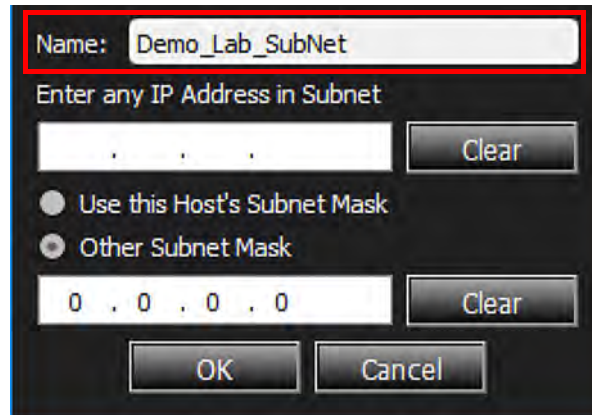

Figure 2.70: Adding a Meaningful Name to a Subnet
- a. Type the new name into the subnet Name field (Figure 2.70).